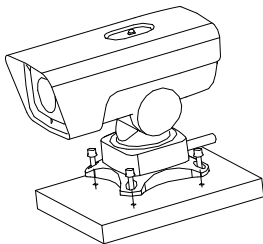

Figure 2-58 Install Base-mounted Camera
2. Insert four M6 hexagon socket screws (with length of 30 mm) through the camera bracket and the plane structure, and then lock the screw nuts to fix the camera, as shown in Figure 2-58.